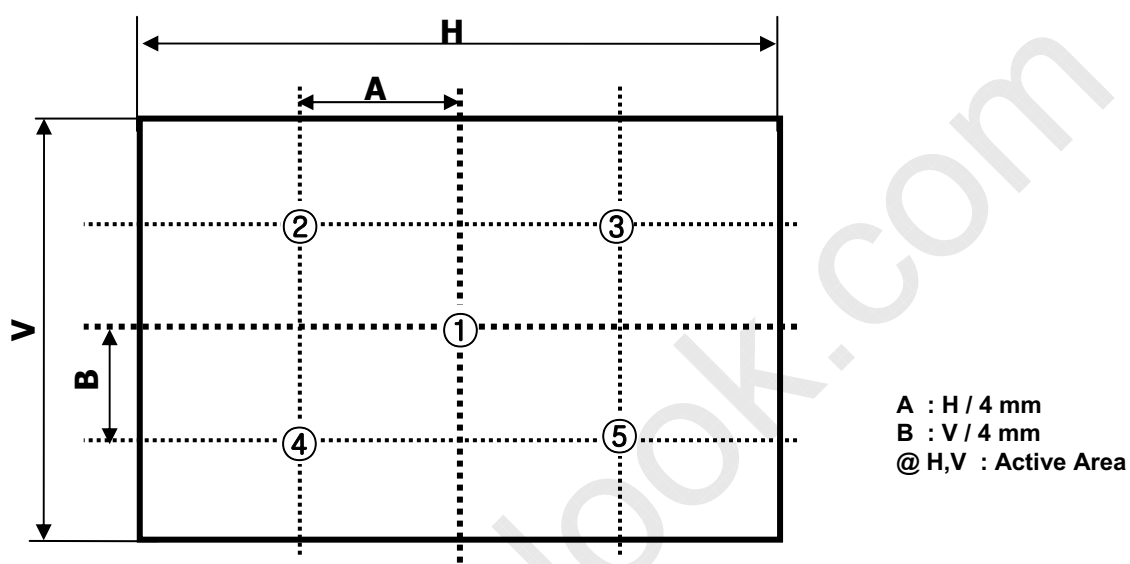

FIG. 2 5 Points for Luminance Measure
2. Surface luminance is determined after the unit has been 'ON' and 1 Hour after lighting the backlight in a dark environment at $25 \pm 2^\circ\text{C}$. Surface luminance is the luminance value at center 1-point across the LCD surface 50cm from the surface with all pixels displaying white. For more information see the FIG. 2.
For more information, see the FIG. 2.